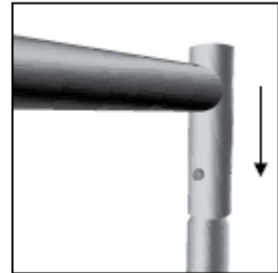

Figure 6
7. Slide horizontal hang bar on to top of the vertical support bars and lock into place. (See Figure 6)